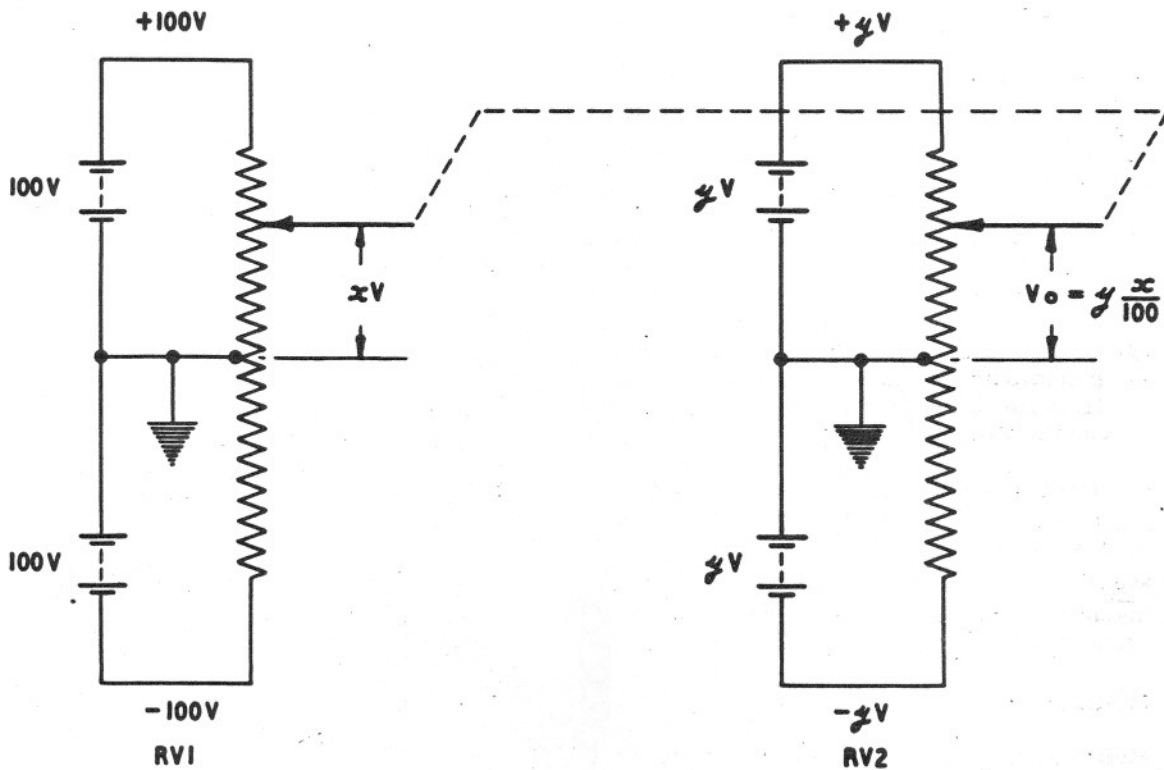
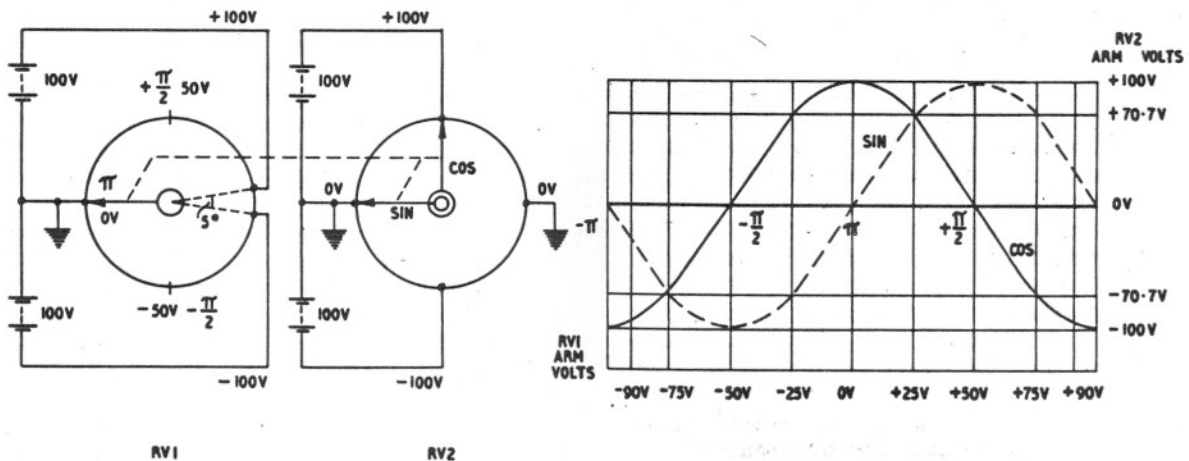
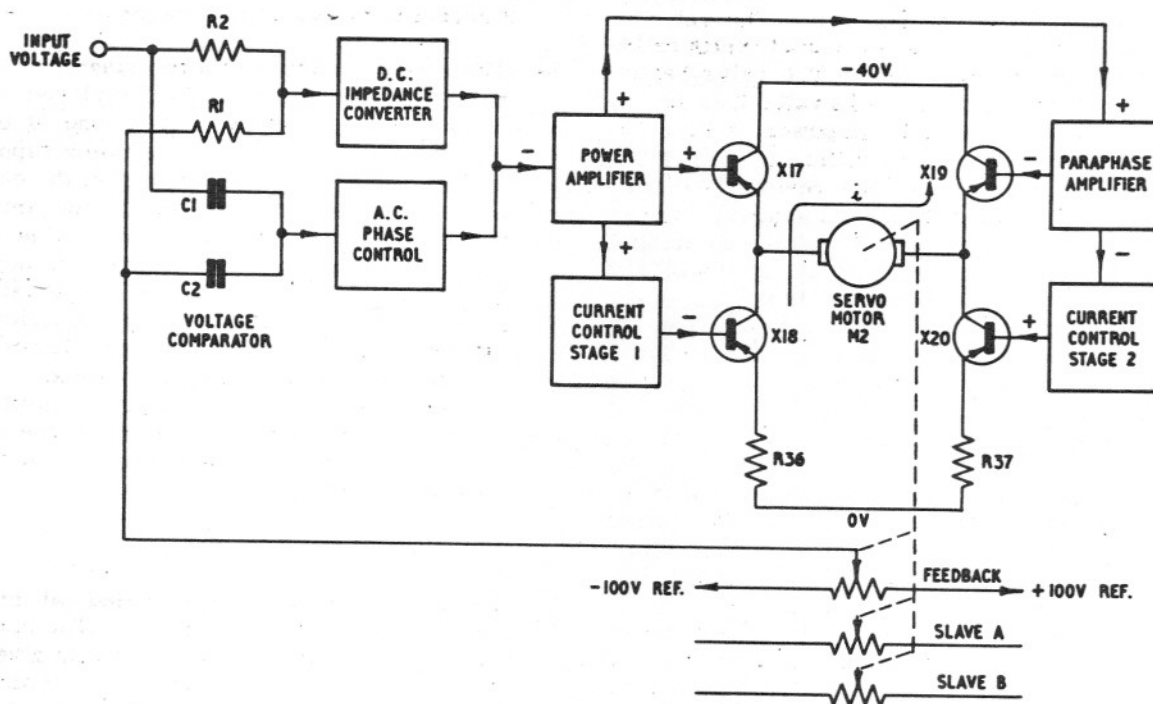

Fig. 2 Electrical Method of Multiplication
Fig. 3 Derivation of Sine and Cosine Functions
Fig.4 Servo Multiplier Type TJ725 - Block Diagram
11. Refer Fig. 2.
2. Refer Fig. 3.
The TJ961 resolver is fitted with two sine/cosine potentiometers in addition to two linear multiplier potentiometers. The sine/cosine potentiometers are wound with sine-law graded windings, and fitted with two electrically isolated arms displaced from each other by an angle of 90° . Potentiometer RV1 is wound with a linear winding and ganged to RV2. It is in all respects identical with potentiometer RV1 shown in Fig. 2, but to simplify diagrammatic presentation it is drawn in its circular physical form in Fig. 3. Though the electrical sweep angle of RV1 potentiometer wiper is restricted to 355° , the mechanical sweep angle is unlimited since no physical stops are fitted on the potentiometer track.
centre-tap of the winding connection to earth. A potential of 100 volts is applied across potentiometer RV2, with the mid-point of the supply and the diametrically opposed winding centre-taps connected to earth. Assuming that the ganged shafts of RV1 and RV2 are initially in the positions shown in Fig. 3, then RV1 arm potential is zero, and the potentials of the sine and cosine arms of RV2 are respectively zero and +100 volts. If now the arm of RV1 is set-up to +50 volts by rotation in a clockwise direction, the potential of the sine and cosine arms will be +100 volts and zero volts respectively. Similarly, a counter-clockwise rotation of RV1 from the zero volts position to set-up -50 volts on the arm will bring the potentials of the sine and cosine arms to -100 volts and zero volts respectively. Considering the sine and cosine arms as vectors rotating through $+\pi$ and $-\pi$ radians from the initial positions, then the output from those arms will be of sinusoidal form as shown by the curves in Fig. 3. The expressions for the outputs from the sine and cosine arms can be written thus:-
- The ganged potentiometers in the TJ 725 multiplier and TJ961 resolver are motor driven by a servo system, a block schematic diagram of which is given in Fig. 4. The ± 100 volts reference supply is connected across the feedback potentiometer, which corresponds to RV1 in Figs. 2 and 3. The existing voltage on the arm of the feedback potentiometer is applied to one input of a voltage comparator. The voltage required to be set-up on the arm of the feedback potentiometer, hereafter called the input voltage, is applied to the second input of the comparator. The difference or error
voltage between the two inputs to the comparator is applied as a correcting signal to a servo amplifier to drive the servo motor in such a direction as to reduce the error voltage to zero, or in other words, to set the feedback potentiometer arm voltage to the input voltage. It will be seen from the block diagram that there are two input channels to the servo amplifier. The d. c. channel is fed from the error voltage developed across the resistive components of the voltage comparator, whilst the phase-correction channel is fed from the capacitive components. The d. c. impedance converter stage, comprising a valve and one transistor, serves to match the high impedance of the comparator resistors to the low impedance of the transistorised servo amplifier. The application of an input voltage to the comparator will cause a current to flow in resistors R1 and R2, the magnitude and direction of which current will be proportional to the difference or error voltage between the input voltage and the existing voltage on the arm of the feedback potentiometer. This current will develop across resistor R2 a voltage proportional in magnitude and polarity to the error voltage, which is applied to the servo amplifier via the d. c. impedance converter stage. The resultant output from the amplifier will drive the servo motor in such a direction as to reduce the error voltage. The servo motor drive system comprises four stages, namely power amplifier, first current control stage, paraphase amplifier and second current control stage. The power amplifier, driven by the outputs of the d. c. and phase correction channels, feeds the paraphase amplifier and first current control stage. The paraphase amplifier effects a phase reversal and drives the second current control stage with its reversed phase output. Each current control stage also effects a phase reversal. The outputs from these four stages are employed to control the current through transistors X17, X18, X19 and X20. In the quiescent condition, each pair of transistors (X17-X18, X19-X20) passes a current of 300 milliamperes. Assuming that a negative signal appears at the input of the power amplifier the outputs from the four stages will have the polarity shown in Fig. 4, with the result that transistors X17 and X20 will cut-off, and a drive current will flow through the motor armature and transistors X18 and X19 in the direction shown.
applied to the servo motor. Assuming that an input voltage is applied to the unit so as to cause a negative signal to appear at the input to the Power Amplifier, the polarity of the resultant voltages appearing at the outputs of the Power and Paraphase Amplifiers, and Current Control Stages 1 and 2 will be as shown on the block schematic diagram, Fig. 4. The collector currents passed by transistors X18 and X19 will thereon increase, whilst the currents passed by X17 and X20 will be correspondingly decreased, causing a drive current to pass through the servo motor armature in the direction shown on the block diagram. Similarly, an input voltage of opposite polarity will apply a reversed drive to the servo motor.